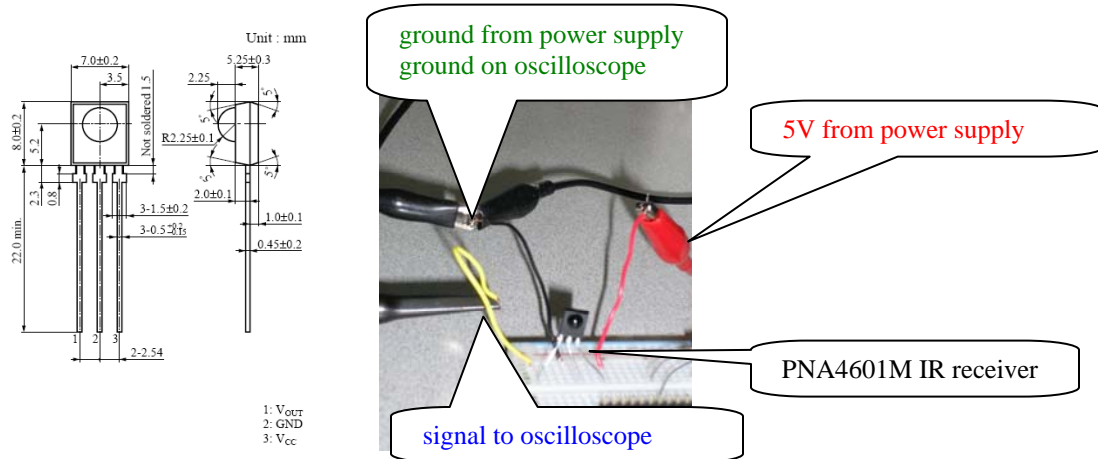

Figure 4: Infrared Receiver Connection
- d. Test the sensing range of the receiver by connecting the PNA4601M IR receiver output signal to the oscilloscope. Use the power supply to provide 5V and ground to the receiver (see Figure 4).